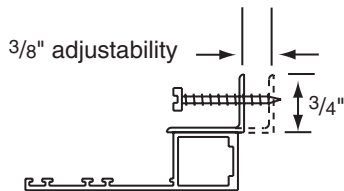

Figure 9
- ⑨ **For All: For Inside Mount**—Loosen adjustable channel mounting angle fasteners, and slide the angles out until they meet the jamb (see Fig. 9). Fasten with screws (not provided). Re-check the straightness of each side support flange, then tighten the angle to side support flange screws.